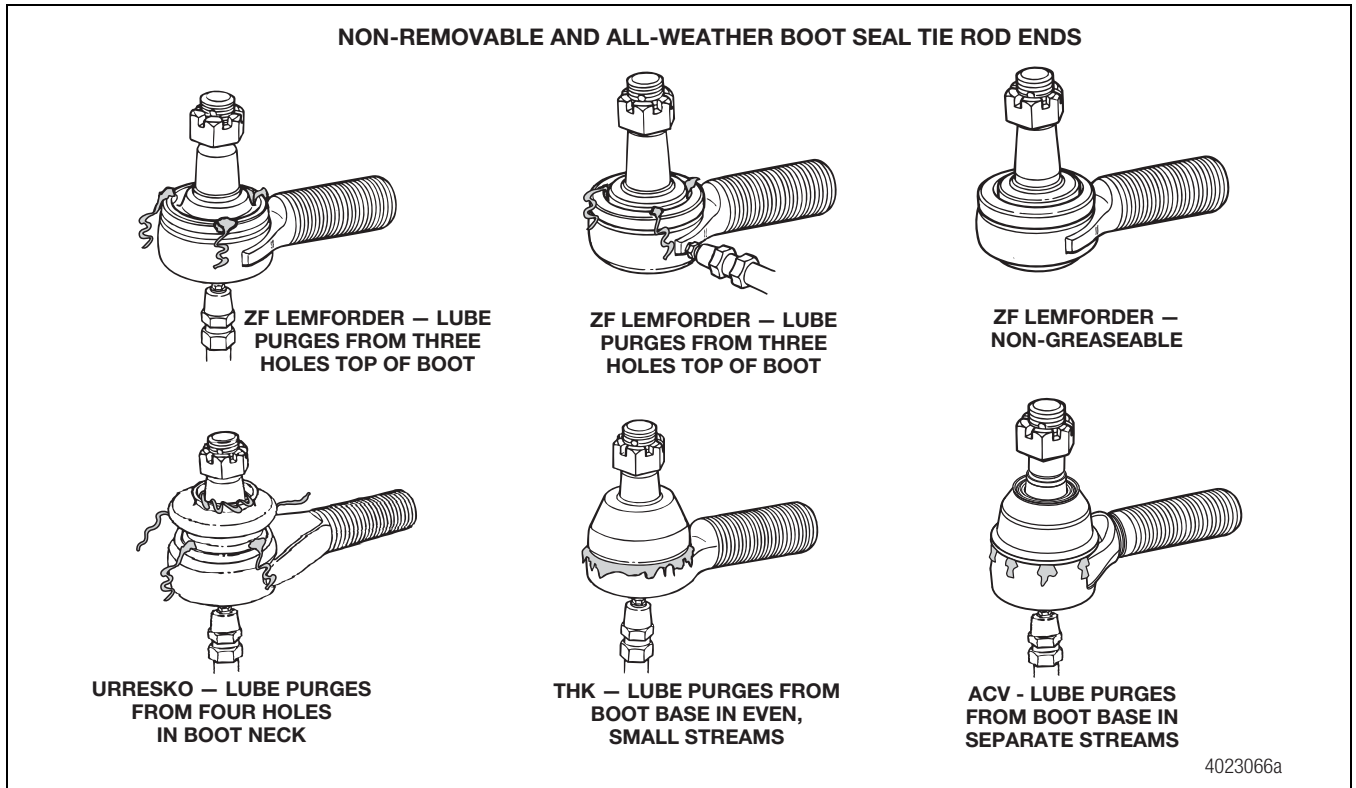

Figure 9.4
5. Apply grease into the grease fitting. Discolored old grease should come out of the purge holes near the boot crimp or bellows area, typically three or more places. Figure 9.4.